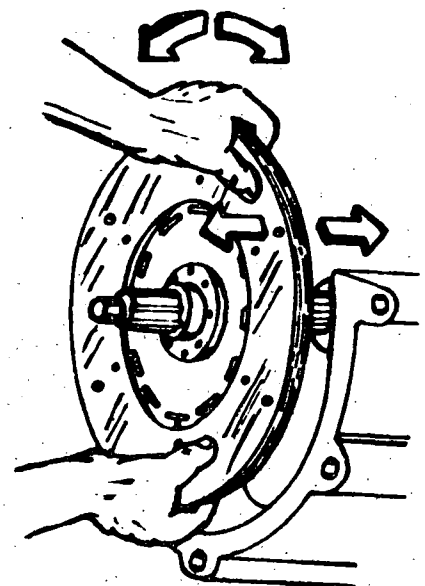

Fig. 1
- f) Install the disc on the input shaft. See that it slides freely or if it has play (Fig. 1).